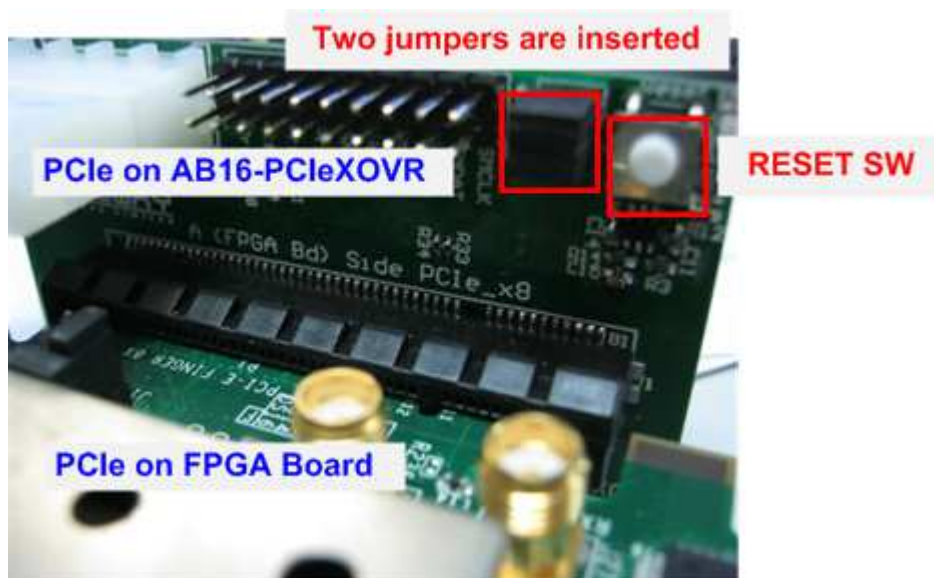

Figure 2-2 Connect PCIe connector between AB16 and FPGA board
- 3) Connect A Side of PCIe connector on AB16-PCIeXOVR board to PCIe connector on Xilinx development board, as shown in Figure 2-2. Also, check that two mini jumpers are inserted at J5 connector on AB16.